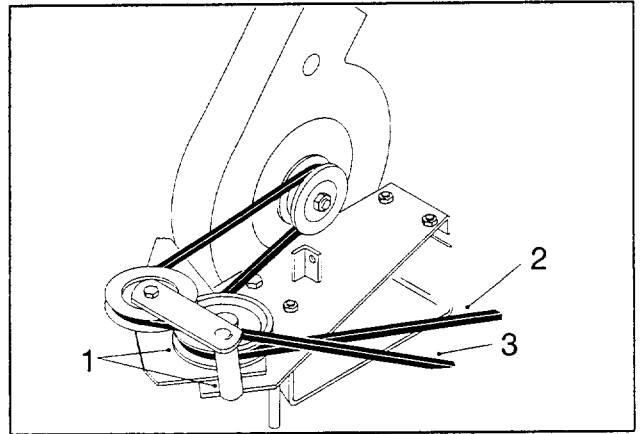

Figure 5
3. With the blower swung out in the open position, install the blower belt between the idler pulley bracket and pulley. Then loop it around the remaining pulleys (Fig. 5).